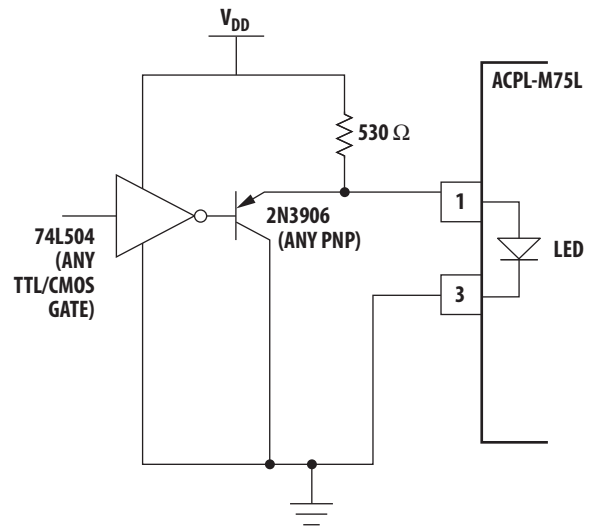

Figure 15. TTL interface circuit for the ACPL-M75L families.
1. Use of drive circuits where current is shunted from the LED in the LED "off" state (as shown in Figures 15 and 16). This is beneficial for good  $CM_H$ .
- Using any one of the drive circuits in Figures 15-17 with  $I_F = 6\text{mA}$  will result in a typical CMR of  $10\text{ kV}/\mu\text{s}$  for ACPL-M75L, as long as the PC board layout practices are followed. Figure 15 shows a circuit which can be used with